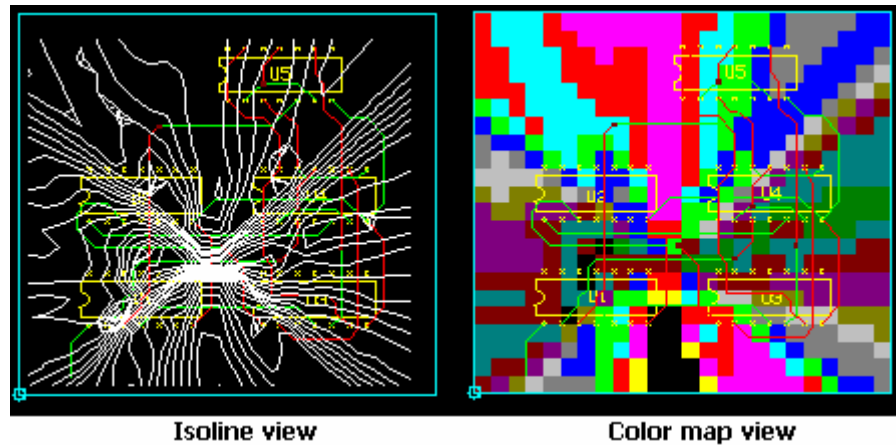

Fig. 9.7
8. The analysis result is as shown: The Maximum and minimum field intensity locations are shown in Fig. 9.7.